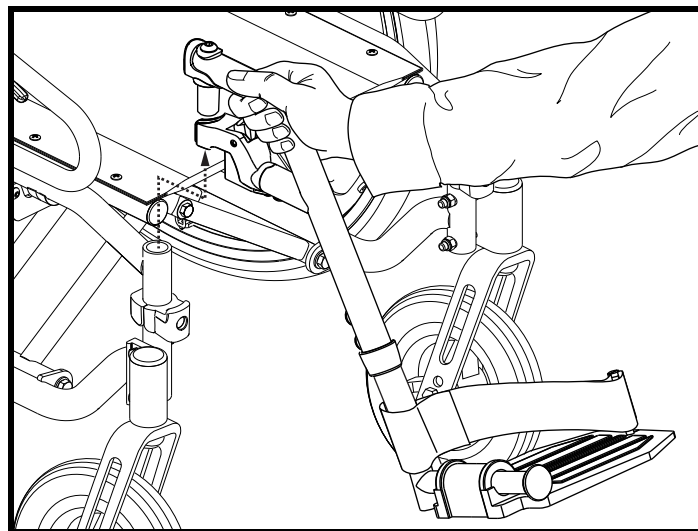

Figure 17. SFR Removal
3. Pull the SFR up. See figure 17.